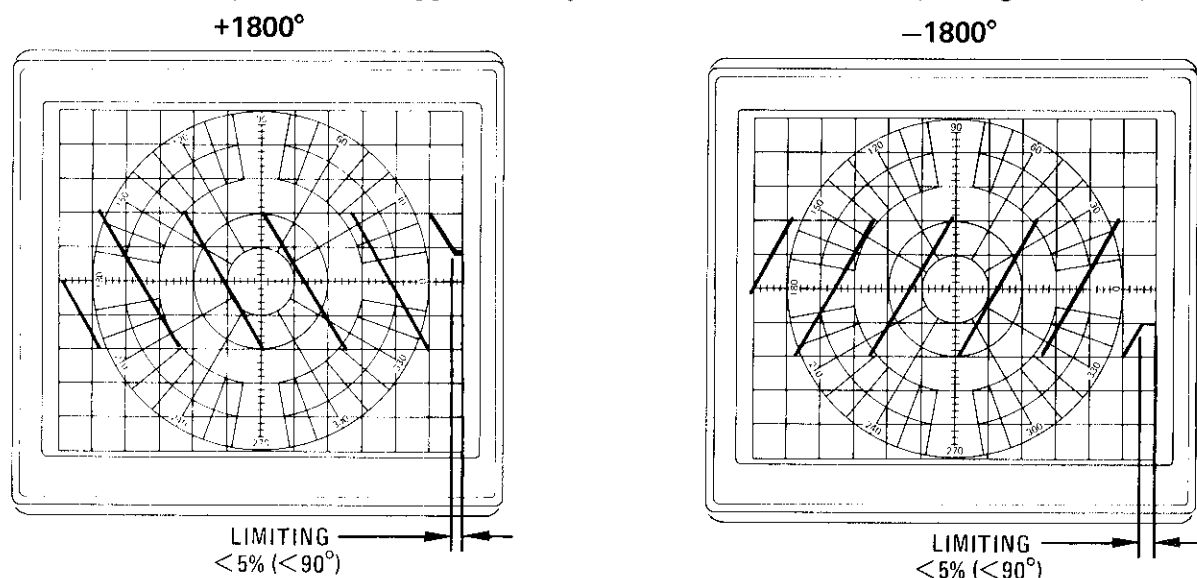

Figure A4-17. Phase Trace with Maximum Electrical Length Added
- o. With ELECTRICAL LENGTH offset pushbuttons, put in +1800 degrees of electrical length. (The electrical length readout displays +180.) Verify that five transitions are displayed and that the linear phase display limits over approximately the last 5% of the trace. (See Figure A4-17, Photo A.)
- q. With ELECTRICAL LENGTH offset pushbuttons, put in  $-1800$  degrees of electrical length. (The electrical length readout displays  $-180$ .) Verify that five transitions are displayed and that the linear phase display limits over approximately the last 5% of the trace. (See Figure A4-17, Photo B.)